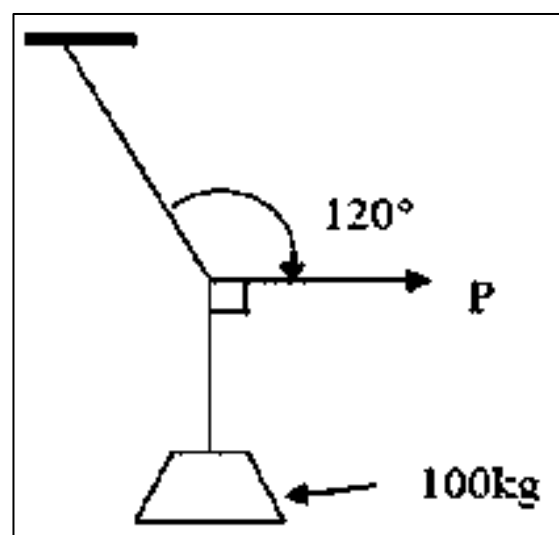

Fig. 4
- (b) Find the magnitude of the force P, required to keep the 100 kg mass in the position by the string as shown in Fig. 4.